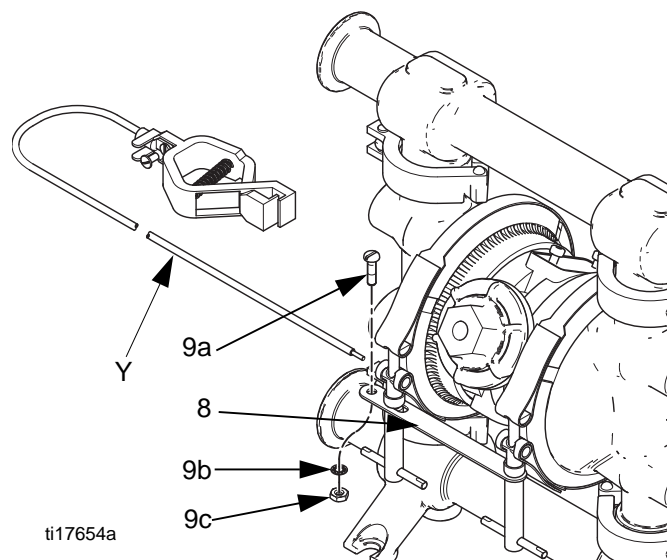

FIG. 1: Ground the pump
- Pump:** Attach a ground wire (Y) to the grounding strip (8) with the screw (9a), lockwasher (9b), and nut (9c), as shown in FIG. 1, and per local code. Connect the clamp end of the ground wire to a true earth ground. Order Part No. 238909 Ground Wire and Clamp.